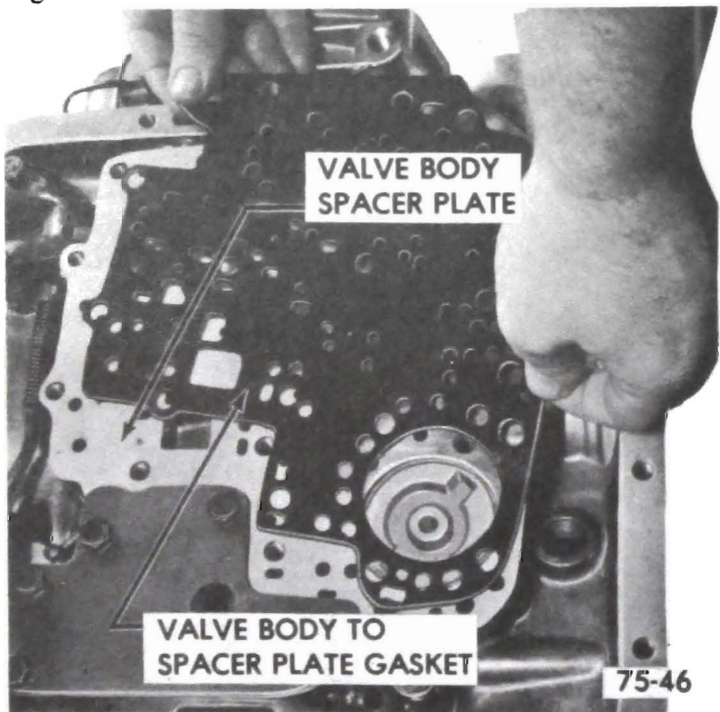

Figure 75-63
3. Remove valve body to spacer plate gasket. See Figure 75-63.